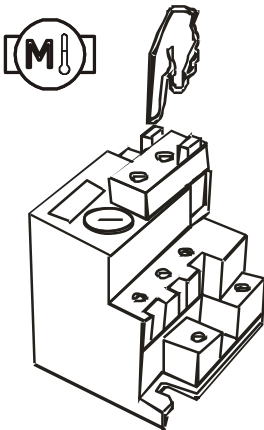

Fig. 8
- find the motor protector and reset it by pressing the key (**see fig. 8**).